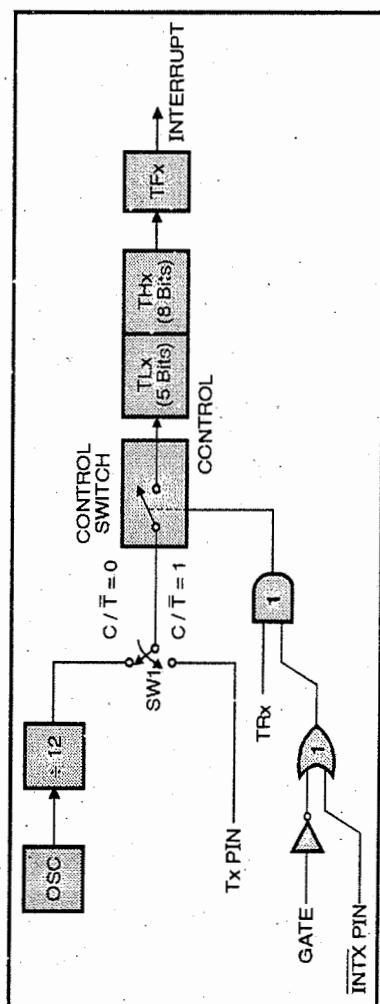

Fig. 1.20.4 : Timer / Counter mode 0 : 13 bit counter
- Fig. 1.20.4 shows the Timer / Counter in mode 0.